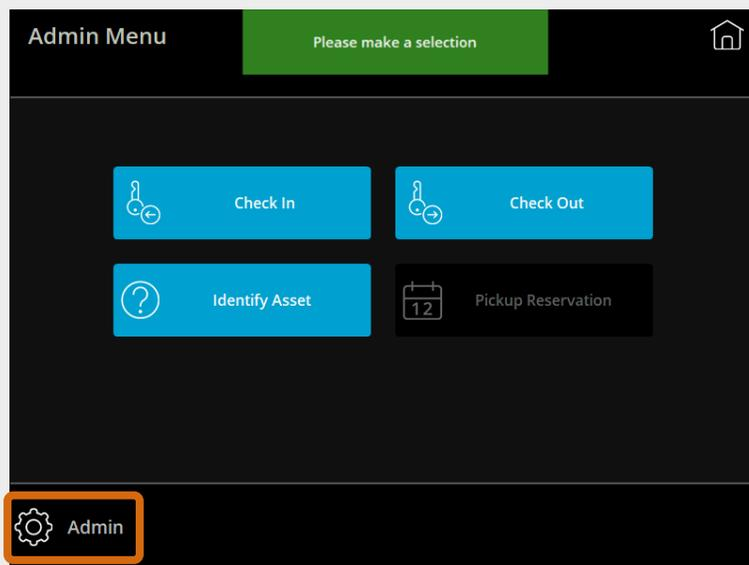

Fig. 49 – Kiosk Admin menu screen
2. Tap **Admin**, as shown in Fig. 49.